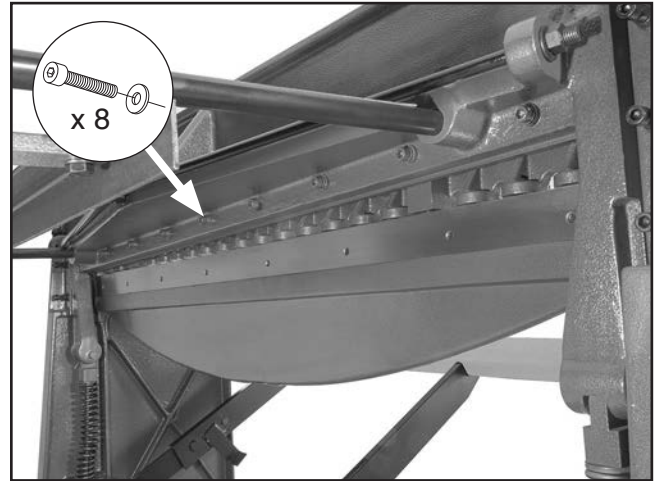

Figure 34. Upper blade cap screws and flat washers.
1. Have another person support blade while you remove (8) cap screws and flat washers to remove blade (see **Figures 34–35**).